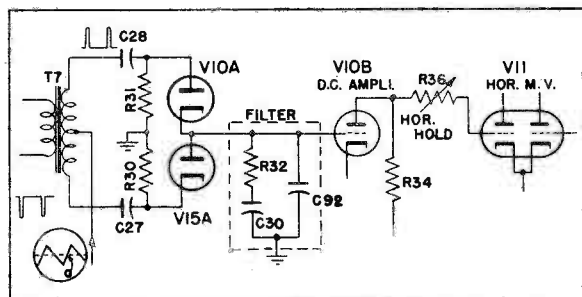

Fig. 5. Horizontal M.V. & Sync Circuit
5. HORIZONTAL MULTIVIBRATOR AND AFC SYNC (See Figure 5)—The horizontal sawtooth oscillator makes use of a Type 6SN7GT tube, V11, in a conventional cathode-coupled multivibrator circuit. Instead of its frequency being controlled directly by the horizontal sync pulses, it is controlled by a d-c voltage on its grid, which is the resultant of the phase error between the incoming sync signal and a sawtooth voltage derived from the output of the horizontal sweep amplifier. This voltage is called an automatic frequency control (AFC) voltage.
The AFC voltage is developed by the diode-connected triodes V10A and V15A by mixing the horizontal sync pulse at the secondary of transformer T7 with a sawtooth waveform derived at the output of the sweep amplifier. When the sync pulse occurs at the time "a" shown in the sawtooth waveform drawing in Figure 5, no voltage will be developed at the output of the filter. However if the multivibrator runs faster or slower so that the pulse falls at a point other than at "a," a positive or negative voltage will appear at the filter, which will be amplified by the d-c amplifier V10B and then